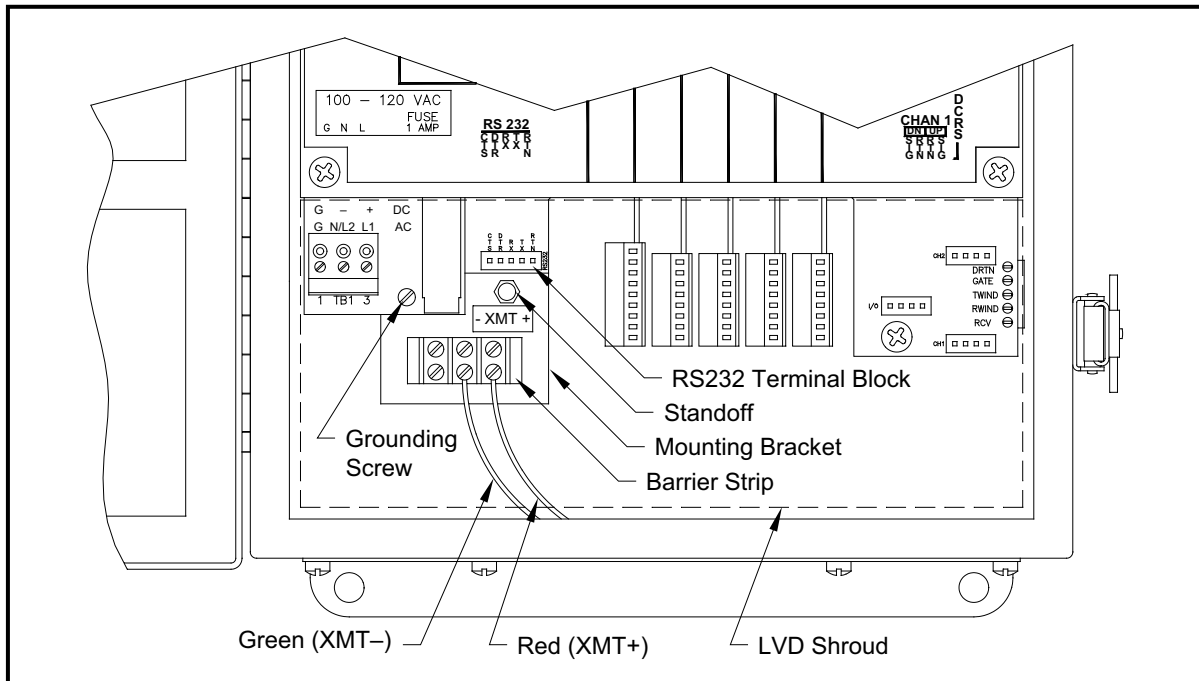

Figure 9: Interface Converter Mounting
A special bracket containing the serial interface converter and a three-terminal barrier strip is mounted inside the Model GS868, just below the RS232 terminal block (see Figure 9 below). The standard **RS232** terminal block is wired to the input of the serial interface converter, and the RS485 output of the serial interface converter is wired to the barrier strip.
Standard factory wiring of the RS485 serial interface is configured for point-to-point wiring. That is, a single Model GS868 may be wired directly to a single personal computer. To connect the RS485 serial interface, refer to *Figure 9* on page 73 and complete the following steps:
3. Remove the serial interface converter *mounting bracket* by removing the standoff located just below the **RS232** terminal block and the grounding screw to its left (see *Figure 9 on page 73*).